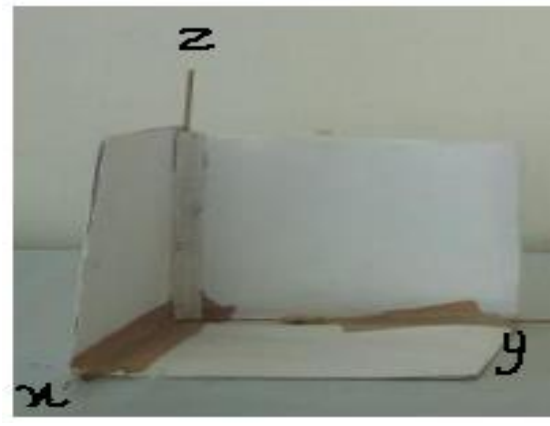

Fig.1: Rectangular Co-ordinate System
**Description :** Rectangular co-ordinate system has x, y and z as it's vertices Usually x- direction is considered to in a direction coming out from the board y is assumed from left to right direction and z is upward movement to convince the co-ordinate system and constant planes a model with card sheet and paper prepared as depicted in Fig. 1.